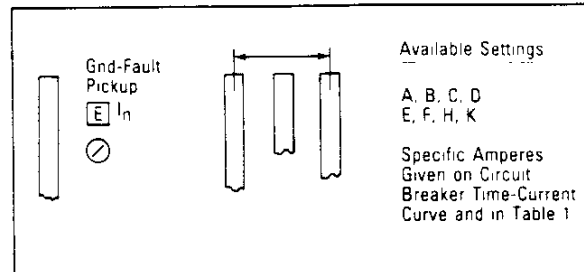

Fig. 6.6 Ground Fault Current Pickup Settings
As illustrated in Fig. 6.6, eight (8) available settings are given in alphabetical notations from A to K (there is no "G" notation). Specific setting values are a function of the installed rating plug. In general, the pick-up settings range from 0.25 to 1.0 times the ampere rating (I_N) of the installed rating plug up to a maximum pick-up value of 1200A.